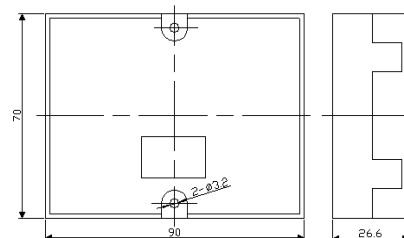

Figure 2 Installation Diagram
1. Drill 2 holes (distance is 60mm) on the wall. See figure 2.